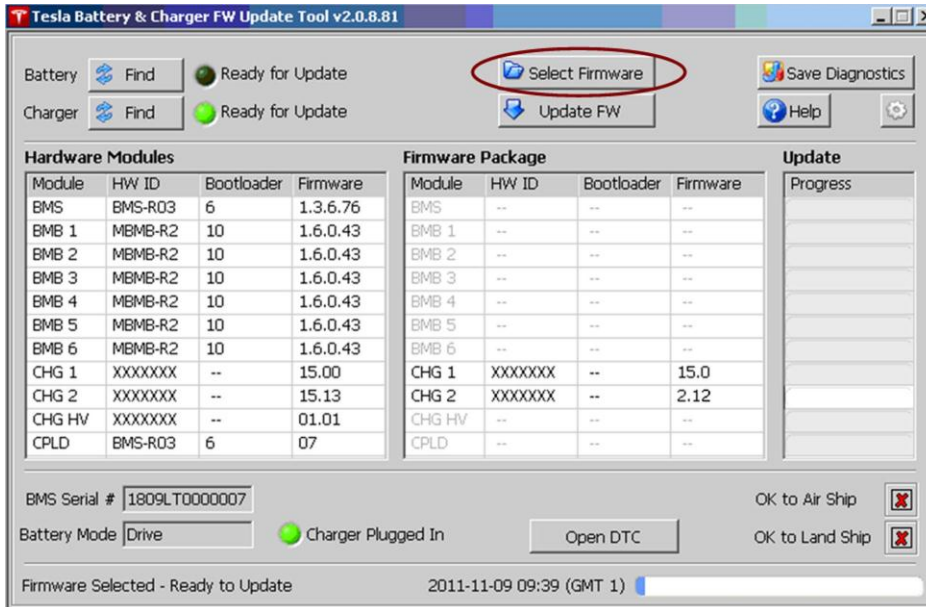

Figure 9
2.3. Select "Select Firmware" button (circled, Figure 9).